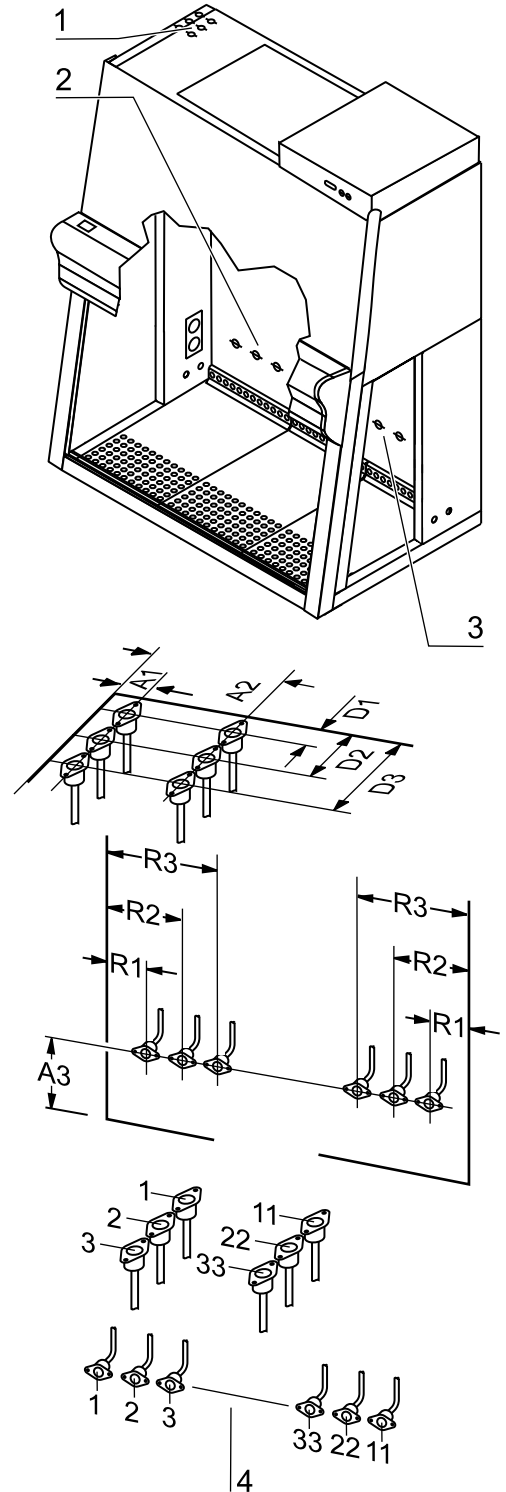

Fig. 5,
**Fig. 5:** The supply lines for media connections are preinstalled to the device frame and are routed to the sample chamber rear panel through the ceiling openings [1].